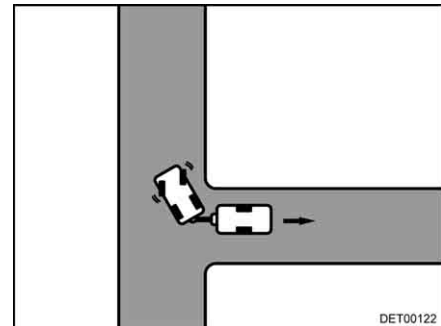

Fig. 18 Steer to the right
- Steer to the right and reverse with caution (Fig. 18).